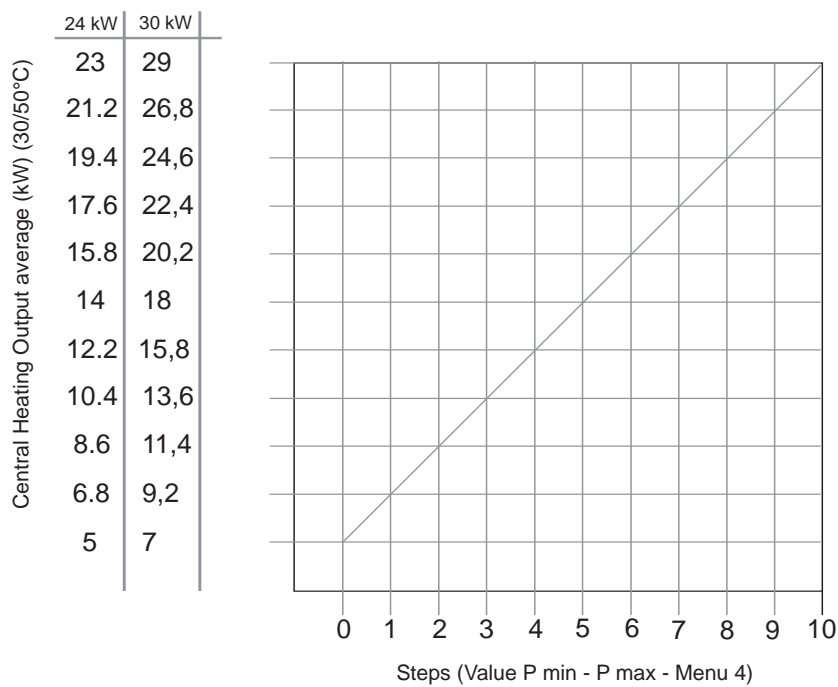

Fig. 41
3. The value is adjustable between 0 and 10, 0 being the minimum output and 10 being the maximum, please refer to the chart on page 32 (Fig. 41) for the required setting;
5. Range rate the thermal power for central heating as detailed in Section 14.5. To adjust the maximum heating power it is necessary to follow the steps in Section 14.5 Menu 4. and adjust in relation to the chart on Page 41 (Fig. 41);